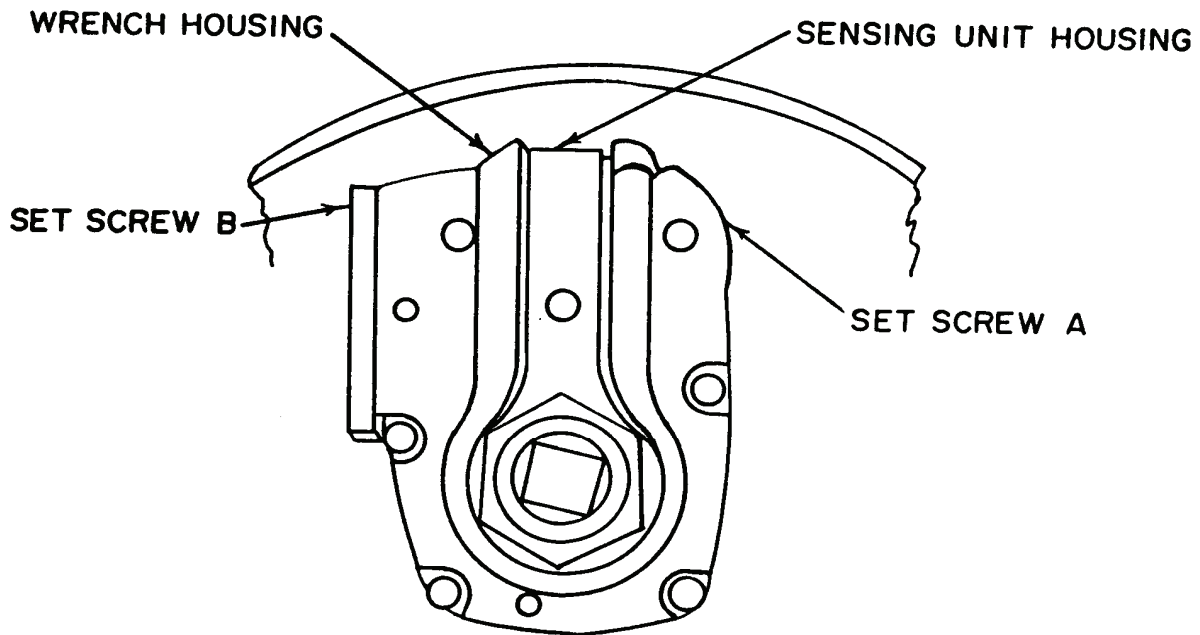

Figure 2. Calibration adjustments.
(8) If TI indication error is not the same in both cw and ccw directions, adjust TI as indicated in (a) through (n) below.
- (c) Back off SET SCREWS A and B (fig. 2) at least three turns each.
WRENCH HOUSING (fig. 2). SENSING UNIT HOUSING should be approximately centered in WRENCH HOUSING.